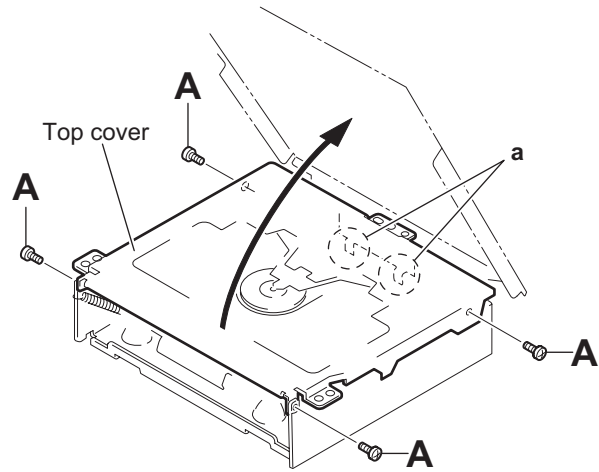

Fig.1
3.1.1 Removing the top cover (See Figs.1 and 2)
- (1) From the both side of the CD mechanism assembly, remove the four screws **A** attaching the top cover. (See Fig.1.)
- (2) Lift the front side of the top cover and move the top cover backward to release the two joints **a**. (See Figs.1 and 2.)